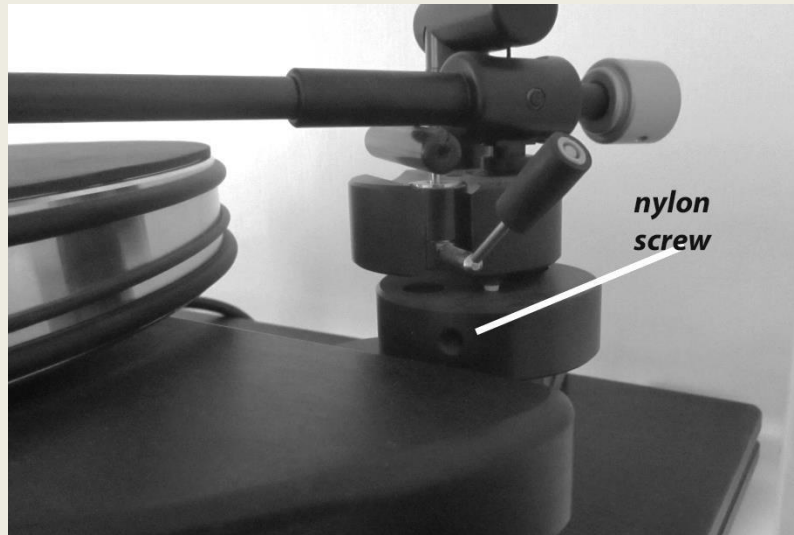

Fig.2
7. An arm is held in place in the arm board by one nylon screw (plain head) (Fig.2). Again, it is not necessary to tighten this screw much to stop the arm stem from being able to move vertically.